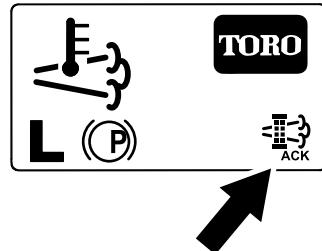

Figure 95
8. The InfoCenter displays the home screen and the regeneration acknowledge icon (Figure 95) appears in the lower right corner of the screen as the regeneration processes.